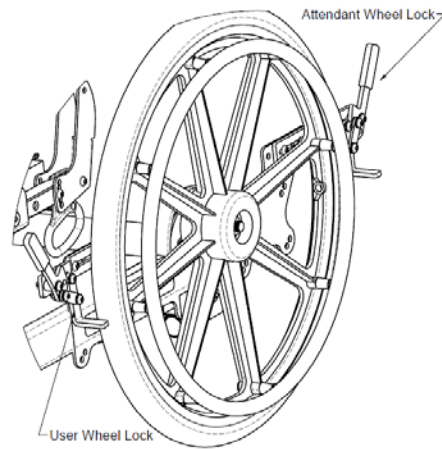

Figure 10.25: *User Wheel Locks and Attendant Wheel Locks*
4. To engage the attendant wheel lock in the User and Attendant Wheel Lock option (see Figure 10.25), follow the step 3 instructions. To engage the user wheel lock in the User and Attendant Wheel Lock option (see Figure 10.25), follow the instructions corresponding to the user wheel lock type (ie. Push to Lock or Pull to Lock).